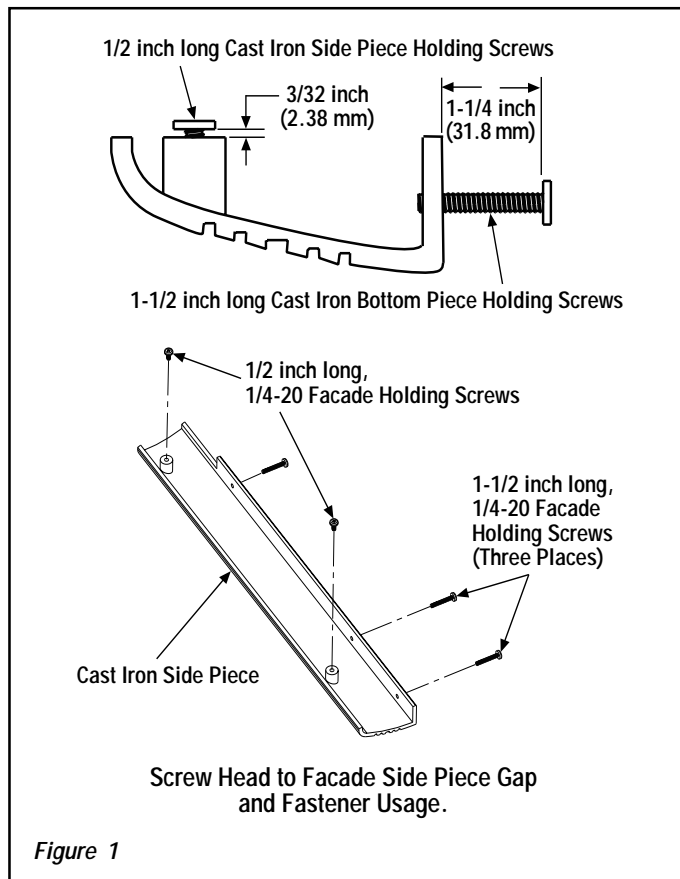

Figure 1
Step 2. Install five (kit-provided) facade holding screws to each of the two side pieces ensuring compliance with the gaps shown in *Figure 1*.
Step 3. Hook the two cast iron side pieces onto the fireplace side channels as shown in *Figure 2*. If the fit is too tight or loose, adjust the gap of the two holding screws. (See *Figure 1*.)